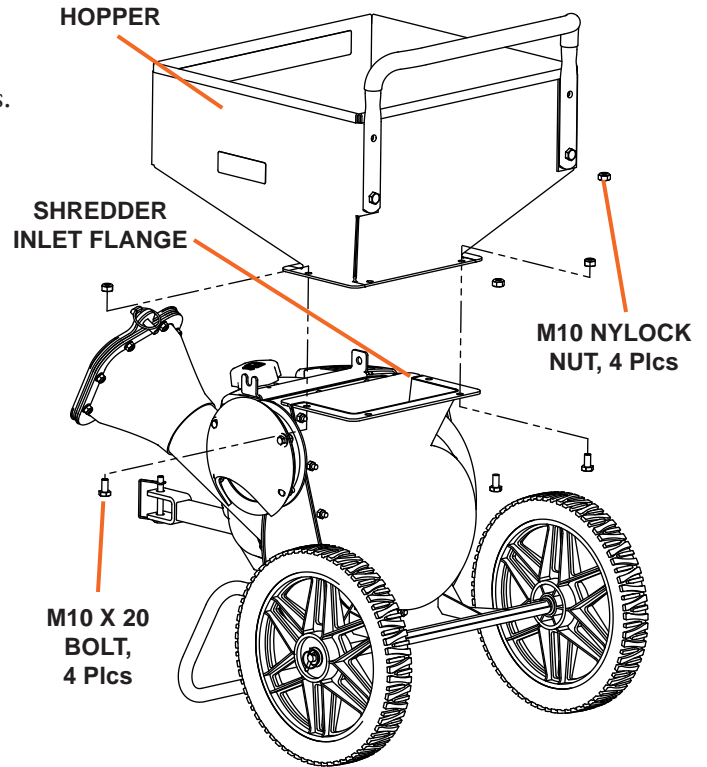

Figure 4
1. Position hopper on shredder inlet flange (see Figure 4).